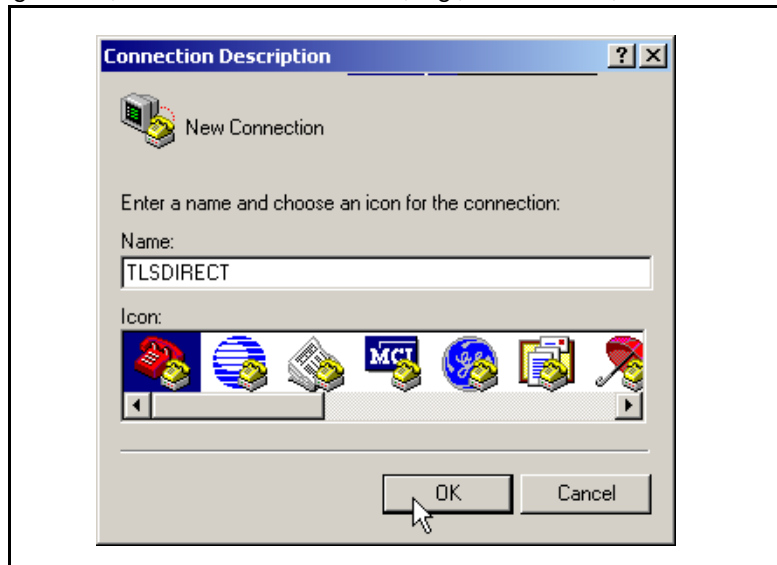

Figure 31. Connection Description window
2. After opening the terminal software program, ignore (cancel) any modem/dialing related request windows since you will be directly connecting to the console via serial communications. When the Connection Description window appears (Figure 31), enter a connection name, e.g., TLSDIRECT, and click the OK button.